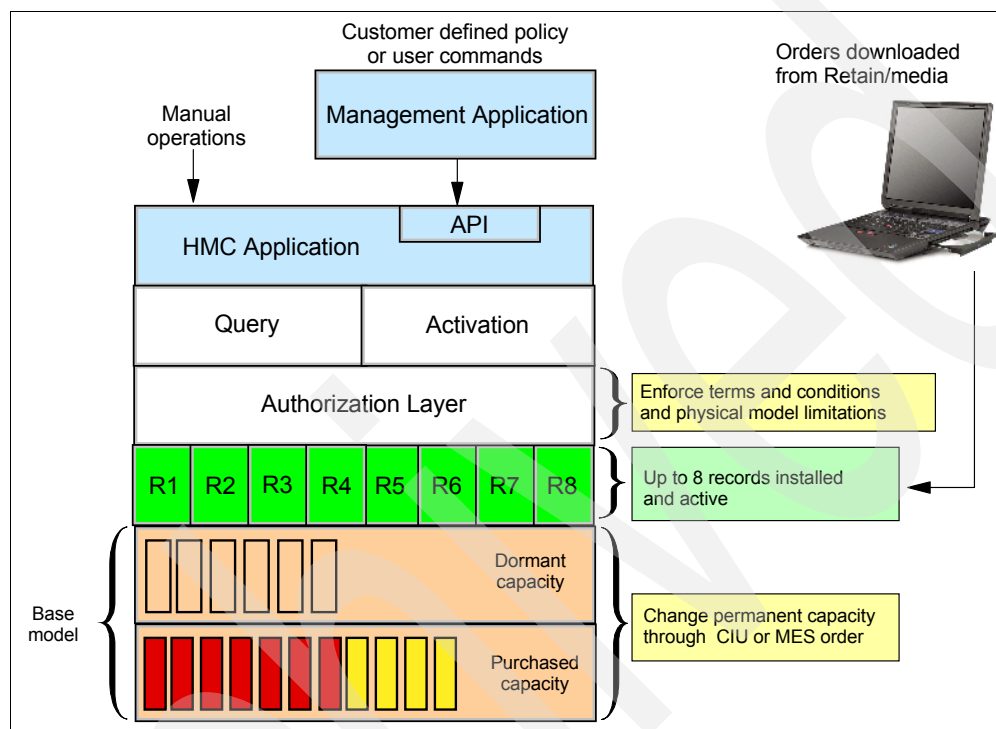

Figure 8-1 The provisioning architecture
The base model z10 EC describes permanent and dormant capacity (Figure 8-1) using the capacity marker and the number of PU features installed on the server. Up to eight temporary offerings can be present. Each offering has its own policies and controls and each can be activated or deactivated independently in any sequence and combination. Although multiple offerings can be active at any time, if enough resources are available to fulfill the offering specifications, only one On/Off CoD offering can be active at any time.
Temporary upgrades are represented in the server by a *record*. All temporary upgrade records, downloaded from the remote support facility (RSF) or installed from portable media, are resident on the Service Element (SE) hard drive. At the time of activation, requiring a remote connection to IBM is no longer necessary. You may control everything locally. Figure 8-1 shows a representation of the provisioning architecture.